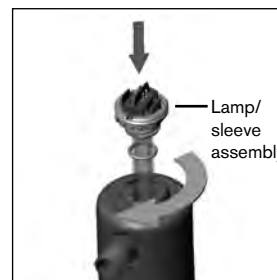

Figure 9
3. Carefully place the lamp/ sleeve assembly into the reactor, making sure it is centered. Apply pressure to the assembly and screw it into the reactor until solidly hand-tight (Figure 9). **Caution: Over tightening will break the quartz lamp sleeve.**